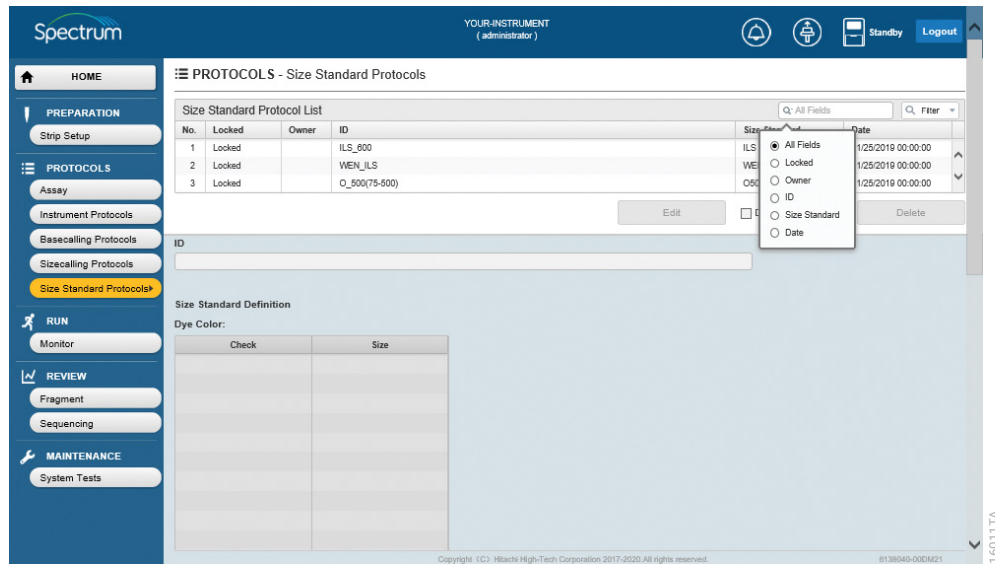

Figure 63. 'Size Standard Protocol List' select search field radio button window.
2. Data in the Size Standard Protocol List may be searched and filtered (i.e., searched for based on specific values and filtered such that only size standard protocols that meet those criteria are displayed in the Size Standard Protocols List). Select the magnifying glass icon on the Select Search Field box to display a window with radio button selections that allows you to search by All Fields, Locked, Owner, ID, Size Standard or Date (Figure 63).